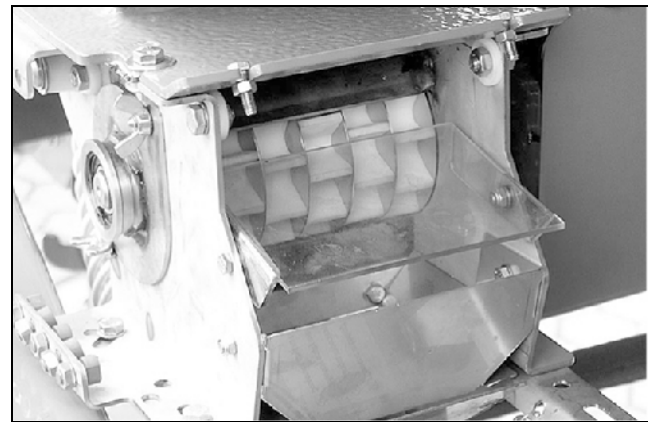

Fig. 115
**The outlet opening is closed when the shutter is pushed in the metering unit according to the opposite illustration (Fig. 115).**